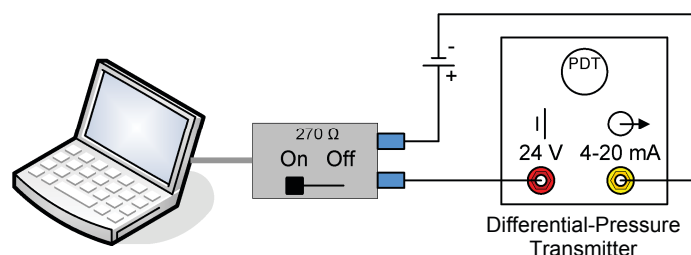

Figure 2-7. Differential-Pressure Transmitter connection.
1. Connect the Differential-Pressure Transmitter and the Commubox according to Figure 2-7. The resistor of the Commubox must be switched on.